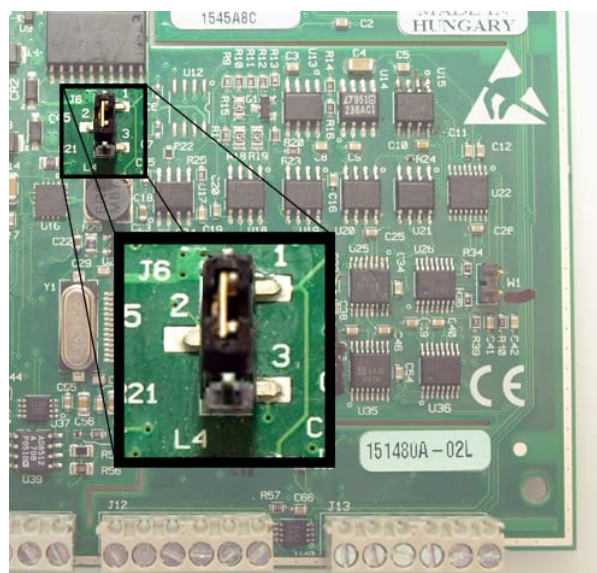

Figure 12. Location of J6 jumper
5. Configure jumper **J6** for either pull-up (pins 1-2) or pull-down (pins 2-3). The jumper is configured by default for pull-up. Figure 12 shows the location of the jumper on the board.